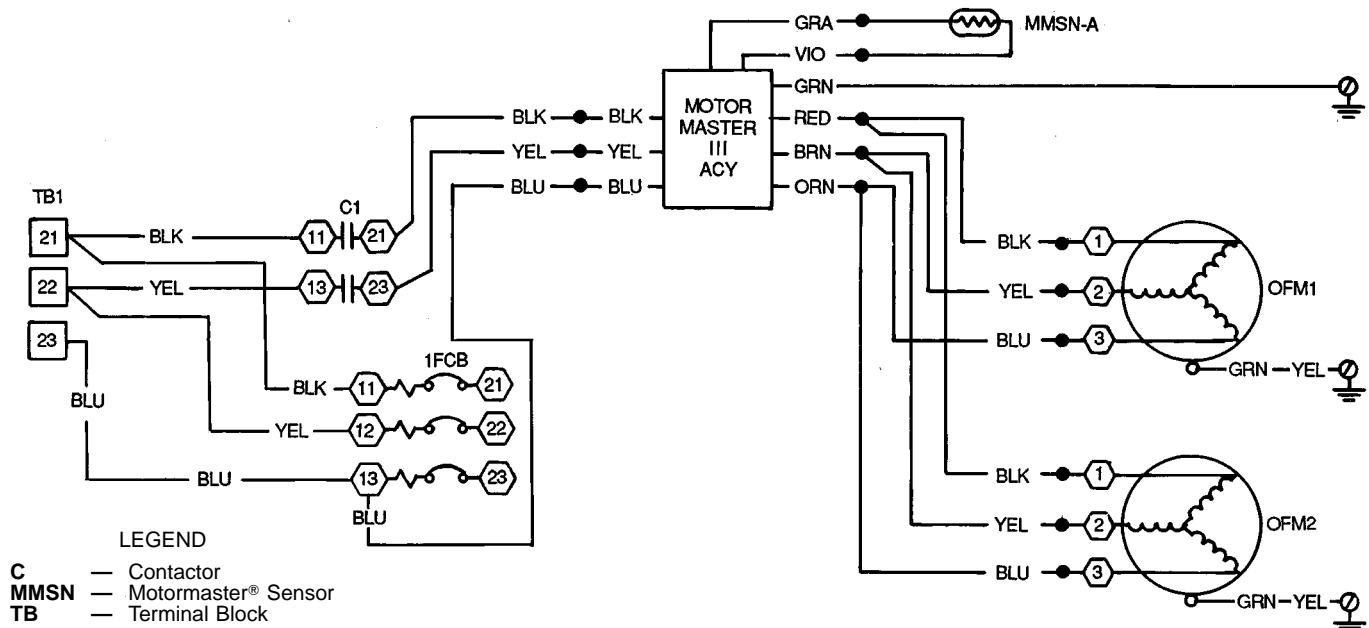

Fig. 9 — Motormaster III Device Wiring — 48/50TJ020-028, 380/415-3-50 and 460-3-60 Units
3. Connect existing unattached black wires (Step 1) from C1 terminal 21 to the black lead of the MMIII control. See Fig. 9.
4. Connect existing unattached yellow wires (Step 1) from C1 terminal 23 to the yellow lead of the MMIII control. See Fig. 9.
5. Connect existing unattached blue wires (Step 1) from TB1 terminal 23 to the blue lead of the MMIII control. See Fig. 9.
7. Connect (splice) the black wires from OFM1 and OFM2 to the red wire of the MMIII control. See Fig. 9.
8. Connect (splice) the yellow wires from OFM1 and OFM2 to the brown wire of the MMIII control. See Fig. 9.
9. Connect (splice) the blue wires from OFM1 and OFM2 to the orange wire of the MMIII control. See Fig. 9.